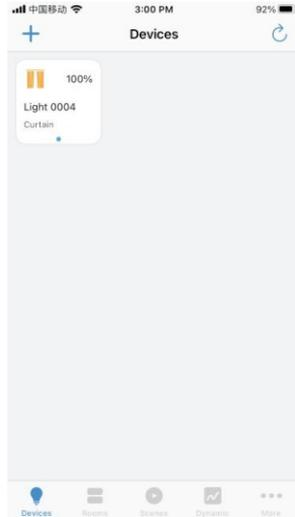

Figure 7
6. Once device is added, tap the controller’s icon to enter the level control interface, then you can control it through the APP. (as shown in Figure 7 & Figure 8)